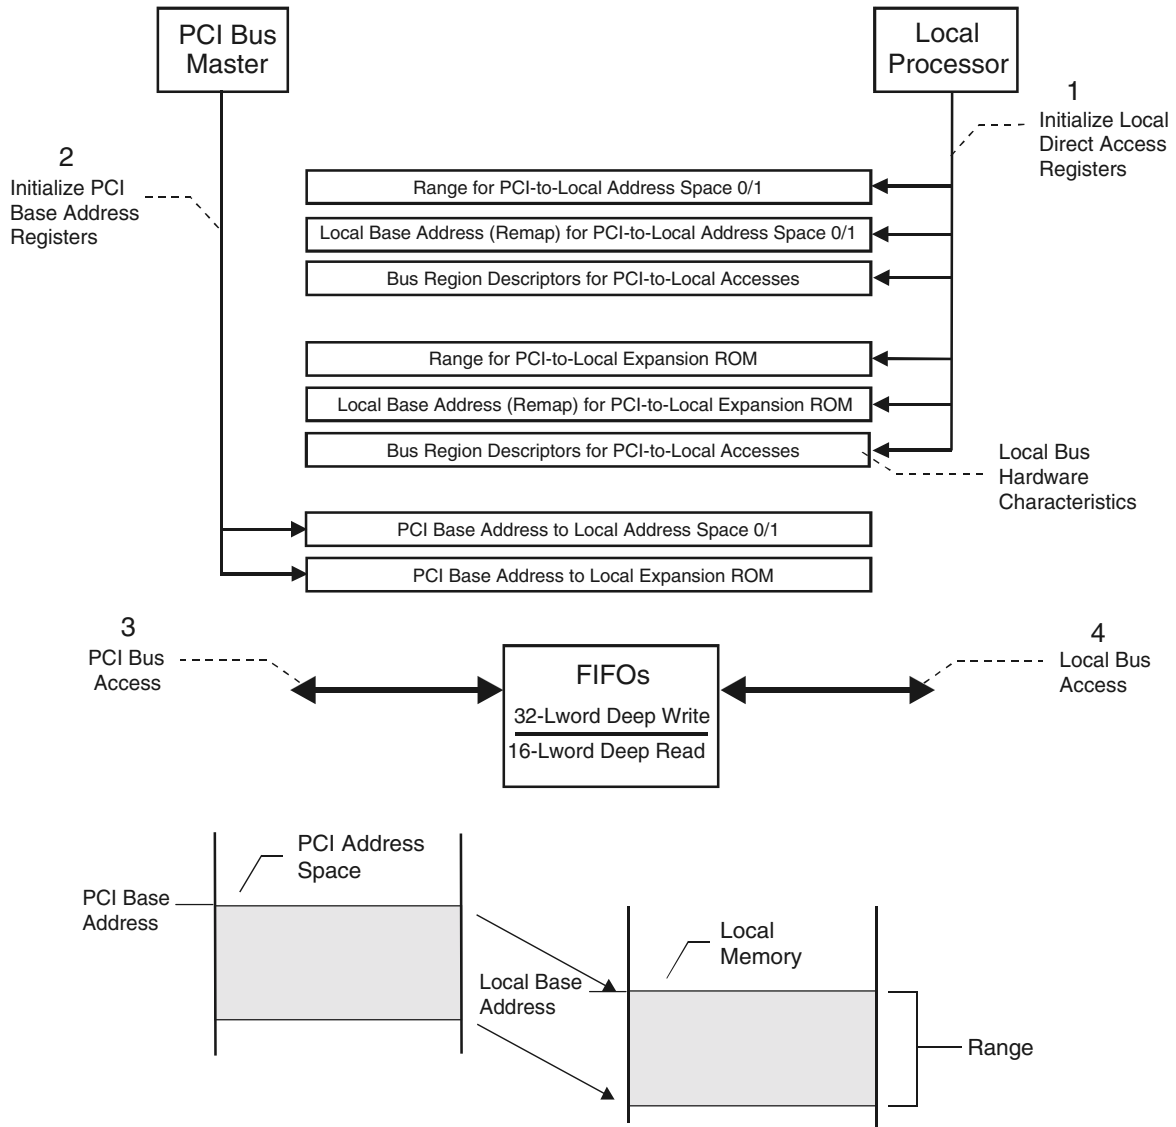

Figure 5-11. Local Bus Direct Slave Access
A fourth register, the Bus Region Descriptor register(s) for PCI-to-Local Accesses (LBRD0 and/or LBRD1), defines the Local Bus characteristics for the Direct Slave regions. (Refer to Figure 5-11.)
After a PCI reset, the software determines how much address space is required by writing all ones (1) to a PCI Base Address register and then reading back the value. The PCI 9656 returns zeroes (0) in the Don't Care Address bits, effectively specifying the address space required. The PCI software then maps the Local Address space into the PCI Address space by programming the PCI Base Address register. (Refer to Figure 5-11.)